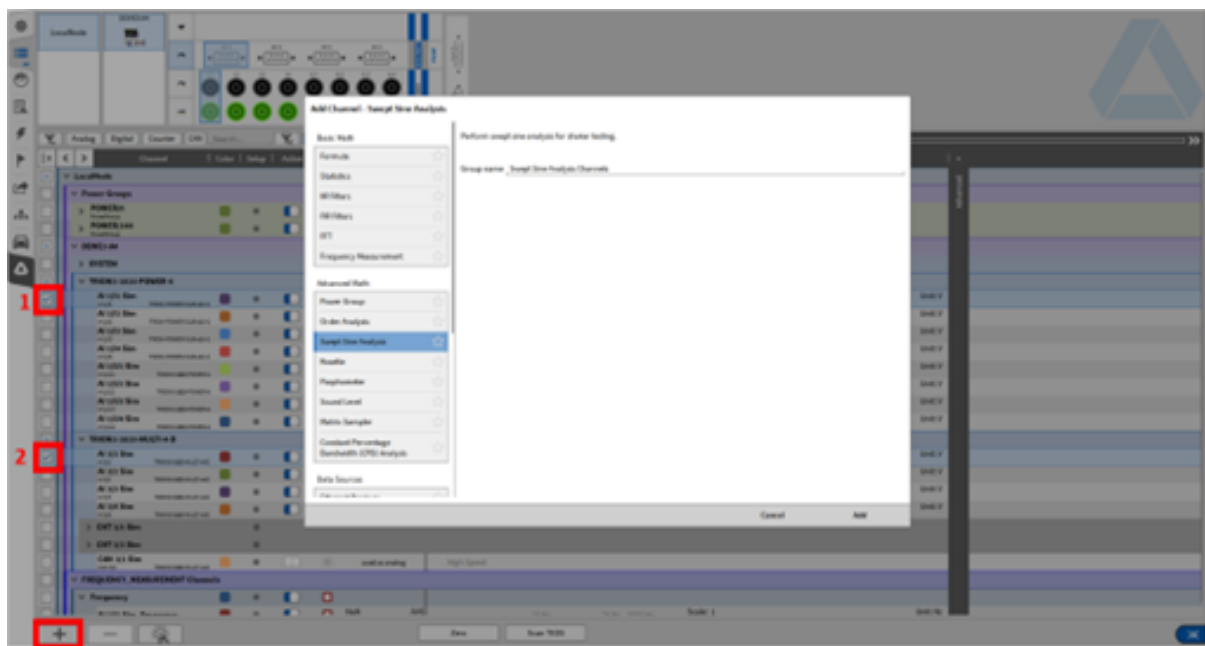

Fig. 7.132: Swept Sine Analysis
1. At first, mark the checkbox of the channel which provides the reference signal for the Swept Sine Analysis (see ① in Fig. 7.132)
2. Next, mark the channel that provides the signal measured on the signal sink (see ② in Fig. 7.132). Several sink signals could be applied to one Swept Sine Analysis group.
3. Click on the *PLUS* (see ③ in Fig. 7.132) sign to open the math setup and select *Swept Sine Analysis*. Edit the channel group name if desired and click on the *OK* button afterwards.